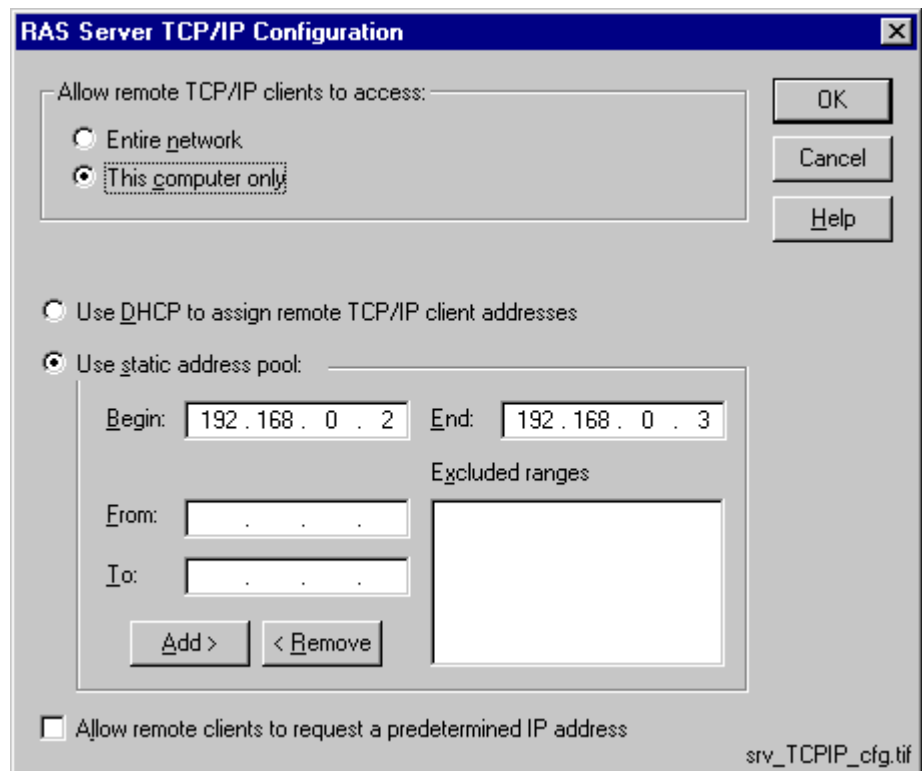

Fig. 5.8.3.-8 Entering TCP/IP addresses in the server computer
12. Configure as shown in Figure 5.8.3.-8. Define a range of at least two IP addresses; RAS assigns one IP for both ends of the RAS connection. Do not include the IP for the Loopback adapter in this range.